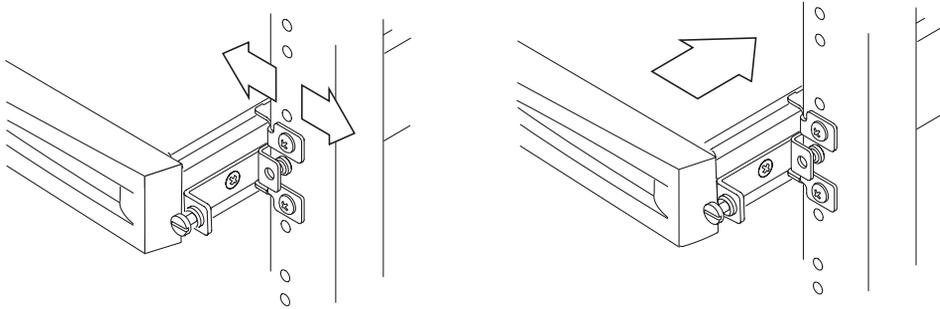

FIGURE 3-6 Adjusting the Mount and Tightening the Thumbscrew
9. Align the screws on the sides of the system with the slide mounts in the rack (FIGURE 3-6).